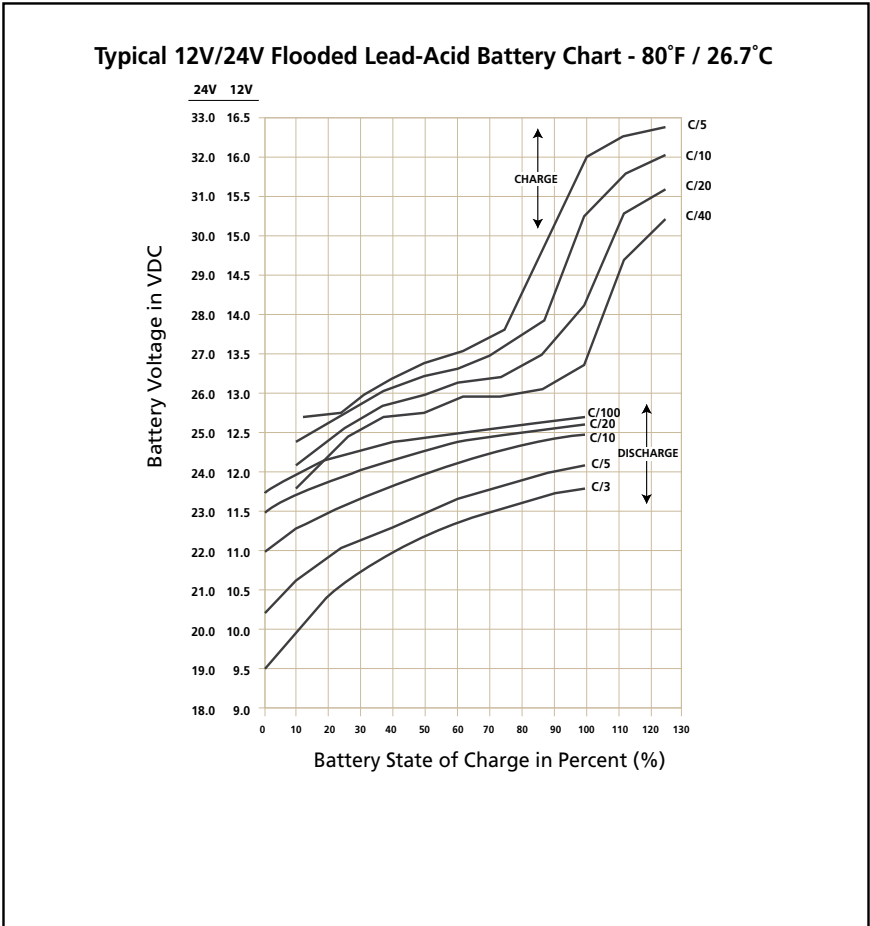

Fig 7.1 Charging / Discharging Curves for Typical 12V/24V Flooded Lead Acid Battery
7.7.1 Fig 7.1 shows examples of State of Charge / Discharge Curves for different C-rates for typical 12V / 24V Lead Acid Battery at 80°F / 26.7°C. These curves are used to determine the State of Charge / Discharge of the battery based on its terminal voltage.
7.7.2 Example of Determining State of Charge (using Fig 7.1) when Charging 12V, 100Ah Battery at C-rate of 0.1C or C/10 or 10A: Refer to Charge Curve marked C/10 of the upper 4 curves marked "CHARGE". States of Charge at different battery terminal voltages will be: (a) At 15.3V = 100% charged; (b) At 14.3V = 90% charged; (c) At 13.5V = 70% charged; (d) At 12.5V = 15% charged
7.7.3 Example of Determining State of Discharge (using Fig 7.1) when Discharging 12V, 100Ah Battery at C-rate of 0.33C or C/3 or 33.3A: Refer to Charge Curve marked C/3 of the lower 4 curves marked "DISCHARGE". States of Discharge at different battery terminal voltages will be: [a] At 9.5V = 100% discharged (0% charged); [b] At 10.4V = 80% discharged (20% charged); [c] At 11.5V = 28% discharged (72% charged) and [d] 11.75V = 0% discharged (100% charged)
The discharge curves in Fig. 7.1 show the % State of Charge versus the terminal voltage of typical Flooded Lead Acid Battery under different charge /discharge currents, i.e. “C-rates” and fixed temperature of 80°F. (Please note that the X-Axis of the curves shows the % of State of Charge. The % of State of Discharge will be 100% - % State of Charge).
As stated earlier at Section 7.10, the buzzer alarm is triggered when the voltage at the DC input terminals of the inverter has dropped to around 10.5V for a 12V battery or 21V for a 24V battery at C-rate discharge current of C/5 Amps. Please note that the terminal voltage relative to a particular of State Discharge decreases with the rise in the value of the discharge current. For example, terminal voltages for a State of Discharge of 80% (State of Charge of 20%) for various discharge currents will be as given at Table 7.5 (Refer to Fig 7.1 for parameters and values shown in Table 7.5):
Inverters are normally provided with a protection to shut down the output of the inverter if the DC voltage at the input terminals of the inverter drops below a threshold of around 10V for a 12V battery or, 20V for 24V battery. Referring to the Discharge Curves given in Fig 7.1, the State of Discharge for various C-rate discharge currents for battery voltage of 10V/ 20V is as follows: (Please note that the X-Axis of the curves shows the % of State of Charge. The % of State of Discharge will be 100% - % State of Charge):